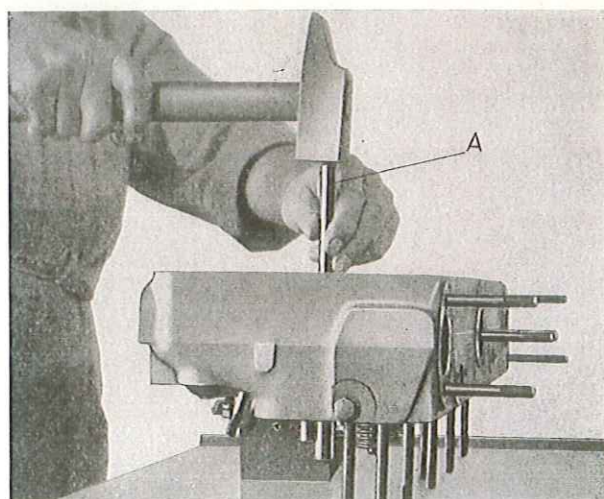

Fig. 65. - Valve guide extractor.
- Remove and install the valve guides operating with punch **A 413009** from the bottom (A, Fig. 65). At reassembly, introduce the valve guides from the top and press-fit them into place using special punch **A 413054**.